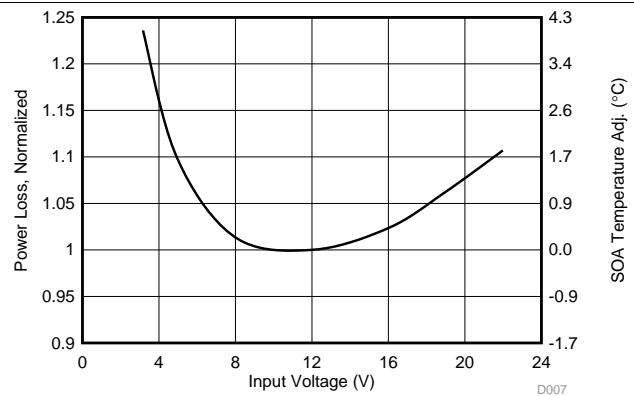

Figure 6. Normalized Power Loss vs Input Voltage
- Normalized power loss for input voltage  $\approx 1.01$  (Figure 6)